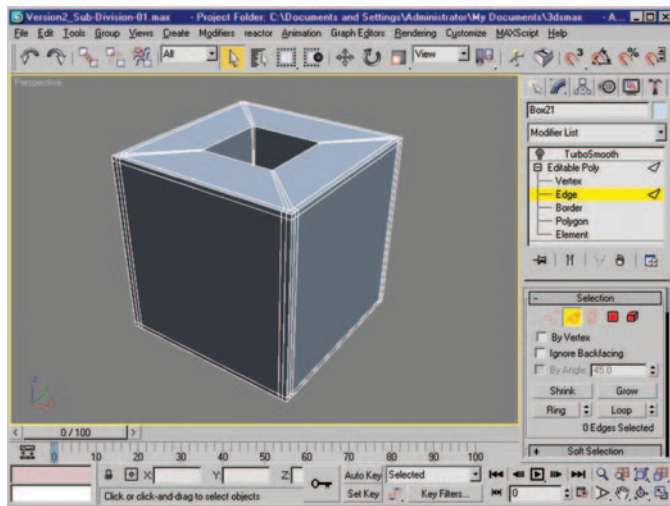

Figure 6.38 All edge-ring selections after using Connect.
4. Do the same for each of the remaining three edges that compose the top of the opening. Create a ring selection, then use Connect on each ring selection. You should use Connect on one selection at a time. Figure 6.38 shows the mesh after repeating the process on the other ring selections.